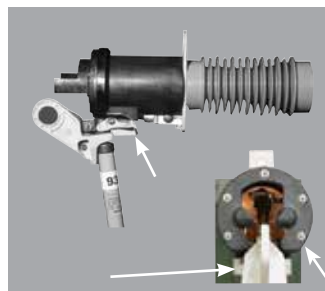

Figure 21. Unlatched condition and latch indicator NOT extended.
4. If the fuse assembly is not in the proper latched position, the fuse-assembly upper end fitting will not have been pushed far enough forward into the receiver for the end-fitting fingers to be caught by the receiver housing and the Positive Latch Indicator is **not** extended (see Figure 21). When this is the case, if the fuse assembly is pulled open (see Figure 22), the interrupter mechanism may not be pulled forward with it and, therefore, may not extinguish the arc. This could result in a flashover. **DO NOT ATTEMPT TO OPEN A FUSE THAT IS NOT COMPLETELY LATCHED!**
If the fingers do not appear to be properly latched or the Positive Latch Indicator is NOT fully extended (Figures 21, 23 and 25 show an unlatched condition), DO NOT attempt to open the fuse assembly and re-seat it. Opening a fuse assembly that is not fully latched can result in electrical arc damage, personal injury or death.